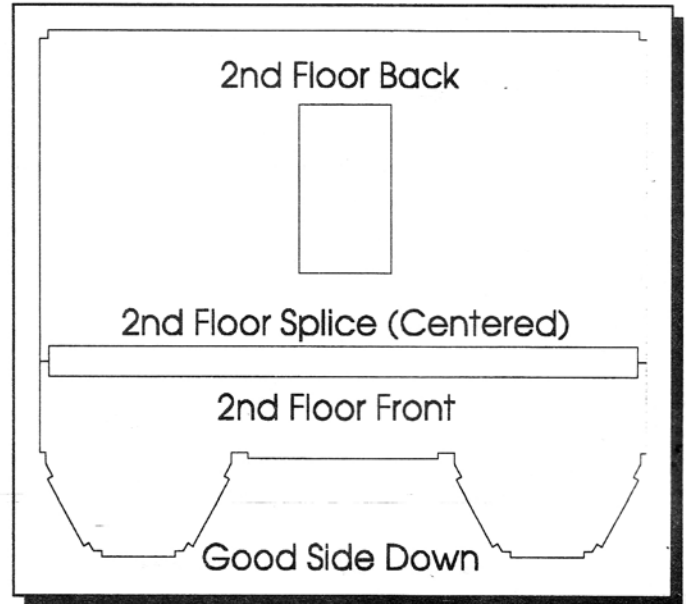

Figure 10
3. Turn 2nd Floor over so the good side is down. Glue 2nd Floor Splice in place as with the Base Floor. Be sure to center splice leaving 1/4" from the ends of splice to edges of floor. See Figure 10.